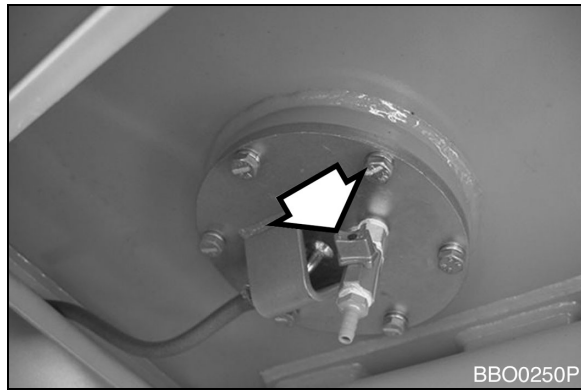

Figure 6
13. Place a large enough container under fuel tank to collect remaining fuel. Open drain valve (Figure 6) at bottom of tank and drain.